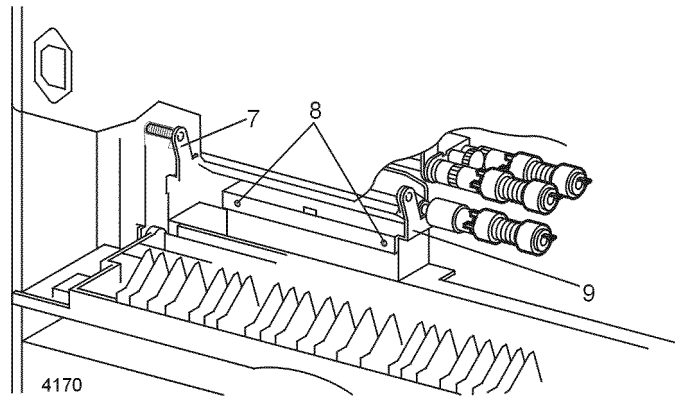

Figure 2 Retard Assembly
7. Release the spring from the left end (as viewed from the rear) of the Retard Support (Figure 2).
8. Remove the two screws that secure the Retard Support Assembly to the feeder (Figure 2).
9. Lift the Retard Support Assembly, slide it to the right and remove (Figure 2).